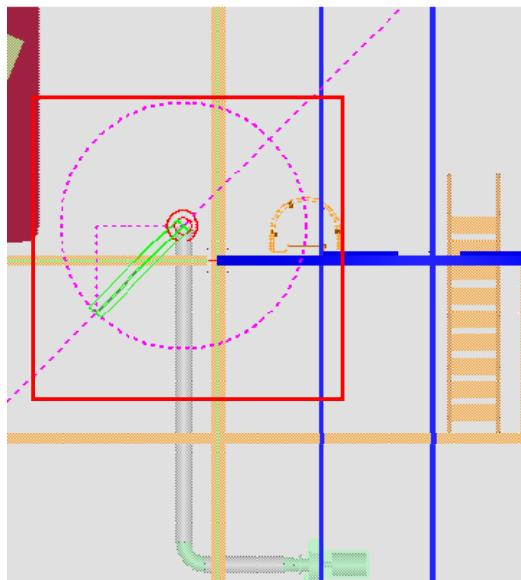

Figure 20: Pipe Constraints
28. The system will now define the constraints within which the pipe can be placed, as shown in Figure 20.